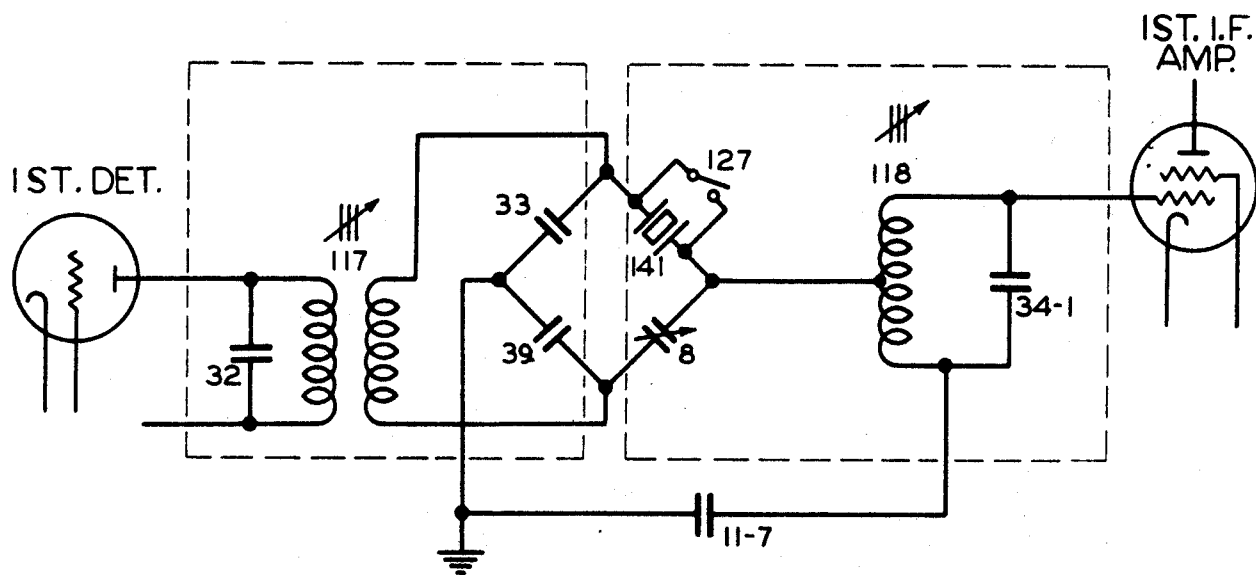

Figure 4-3. Details of Crystal Filter Circuit
*b. CRYSTAL BAND-PASS FILTER.* (See fig. 4-3) —Additional selectivity is available by the use of the i-f crystal filter preceding the first i-f amplifier tube. This crystal filter comprises a balanced capacity bridge circuit which may be adjusted internally to provide a band width of 800 to 3,000 cycles at 10X down from resonance. The tapped tuned circuit (118 and 34-1) matches the impedance of the crystal bridge to the first i-f grid. The crystal filter may be switched in or out of the circuit by the CRYSTAL OUT-IN switch 127, actuated from the front panel. The symmetry of the resonance curve is adjustable by the balancing capacitor 8. The filter band width is adjustable by the